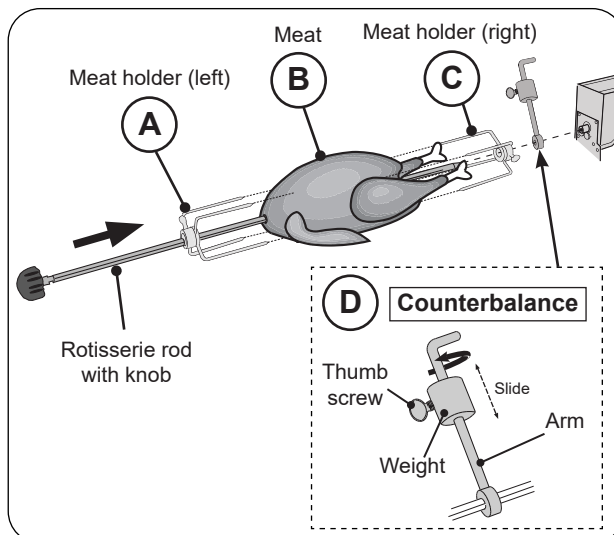

Fig. 41-3 Assemble rotisserie rod for cooking
4. Slide the left meat holder onto the rod and tighten (see Fig. 41-3, A).
5. Then slide meat onto the rod, followed by the right meat holder (see Fig. 41-3, B and C).
8. The counterbalance may then be attached to even weight distribution. Slide the counterbalance onto the rod next to the right meat holder (see Fig. 41-3, D). Loosen the arm and point it upward opposite the heavy side of the meat. Tighten the arm.
9. Slide the counterbalance weight up or down the arm until the rod rotates most evenly then tighten thumb screw (see Fig. 41-3, D).